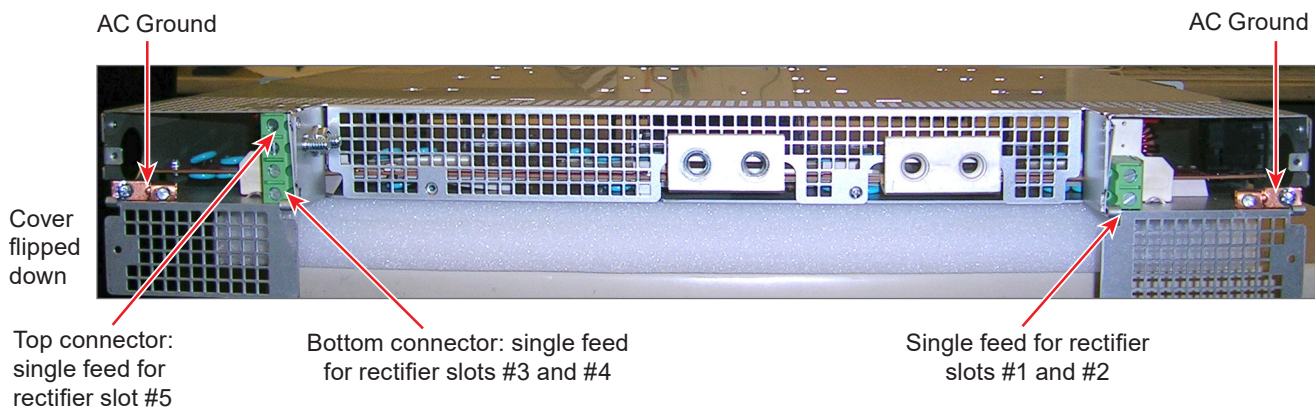

Figure 10 — AC Input and Ground for 23" Shelf
2. At the rear of the shelf, remove screw and flip the cover down (two places) to access the AC input terminal blocks: each terminal pair corresponds to either two rectifiers or a single rectifier as shown in Figure 10.
4. Secure the wires to the AC input and AC ground terminals (15 in. lbf) and AC ground terminal (35 in. lbf). Refer to Figure 10 and customer connection drawing 0300057-08 at the end of the manual.